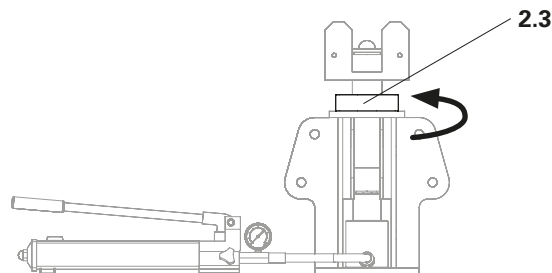

Fig. C2.01c
3. Tighten the head spindle nut (2.3). (Fig. C2.01c)